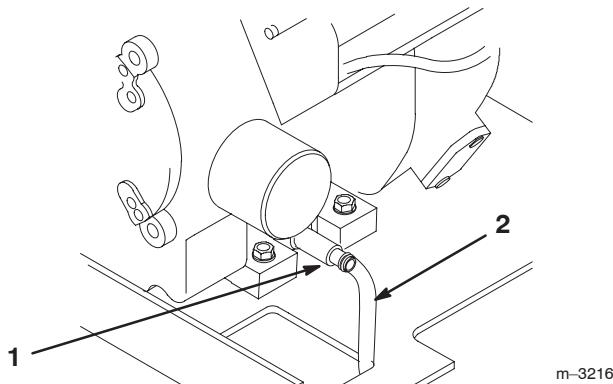

Figure 19
- Open the drain valve by turning it counterclockwise, pulling out as you turn it (Fig. 19).